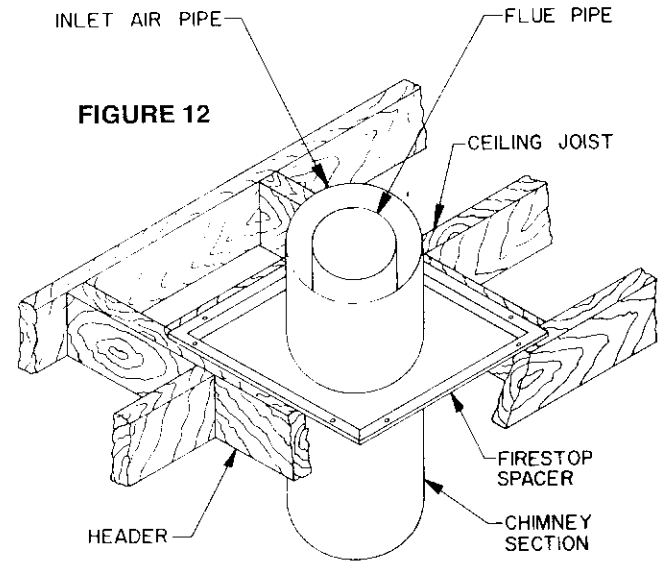

FIGURE 12
2. Install the firestop spacer as required from beneath the ceiling unless the space above is attic space. In an attic, the firestop spacer should be installed at the floor level of the attic (see figure 12). You must have joist or headers on all four sides of the spacer and use a minimum of four 8 penny nails to secure the spacer.